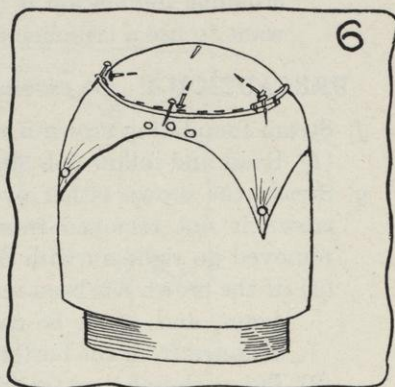

FIG. 6.
(3) Lay either the wire or the cord in place on the tip, and put pins just over the pins in the tip to mark the direct front, back, and sides (see Figure 6). These pins will help you to shirr the side crown evenly over the wire or the cord.